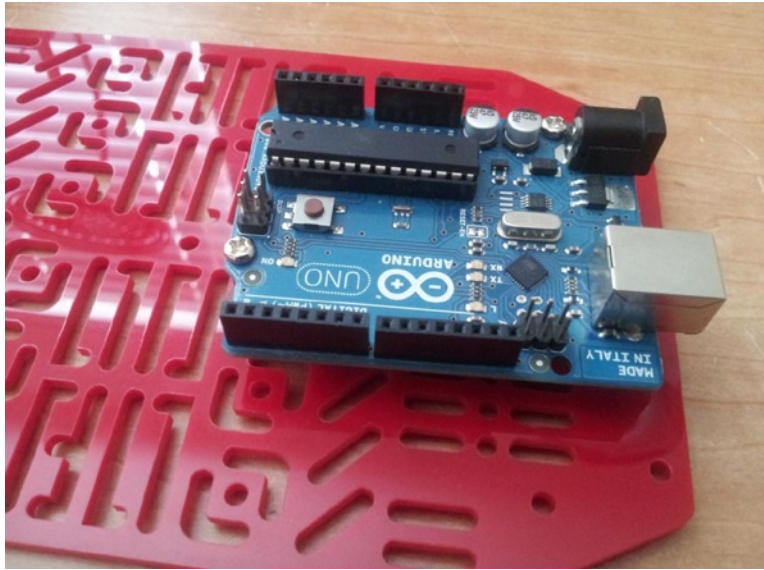

Figure 31-4. *Attach the Arduino to the top plate of the chassis*
3. Attach the Arduino to the top plate of the chassis. Figure 31-4 illustrates this process. You may find that the Arduino is sitting at a small angle with respect to the edges of the top plate—this is perfectly normal. Not all chassis plates allow for perfect mounting of components, so you'll sometimes have to rotate a component to make the standoffs fit into the spaces of a plate.